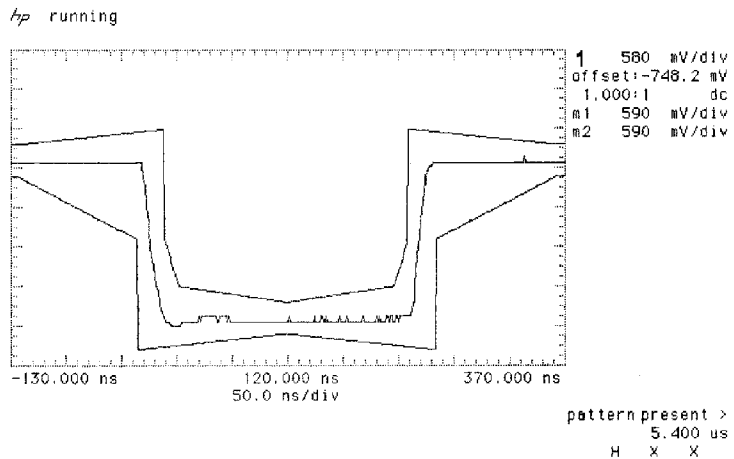

Figure 3-31
18. Adjust the oscilloscope timebase and vertical sensitivity controls to verify that the pulse meets the mask as shown in Figure 3-31. Use the displayed settings as a guide.